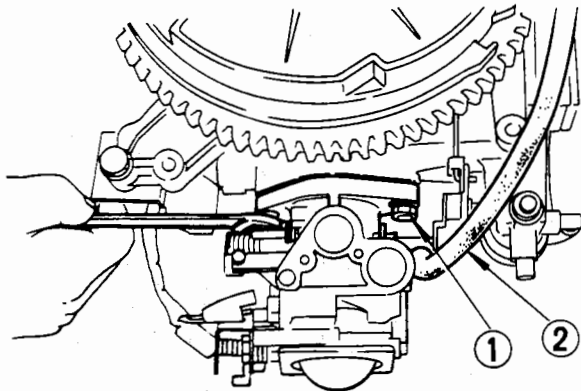

Fig. 25 Removing the carburetor
- 4) Remove the carburetor mounting nuts. (Coarse 6-2) Remove the carburetor from the engine. (Fig. 25)